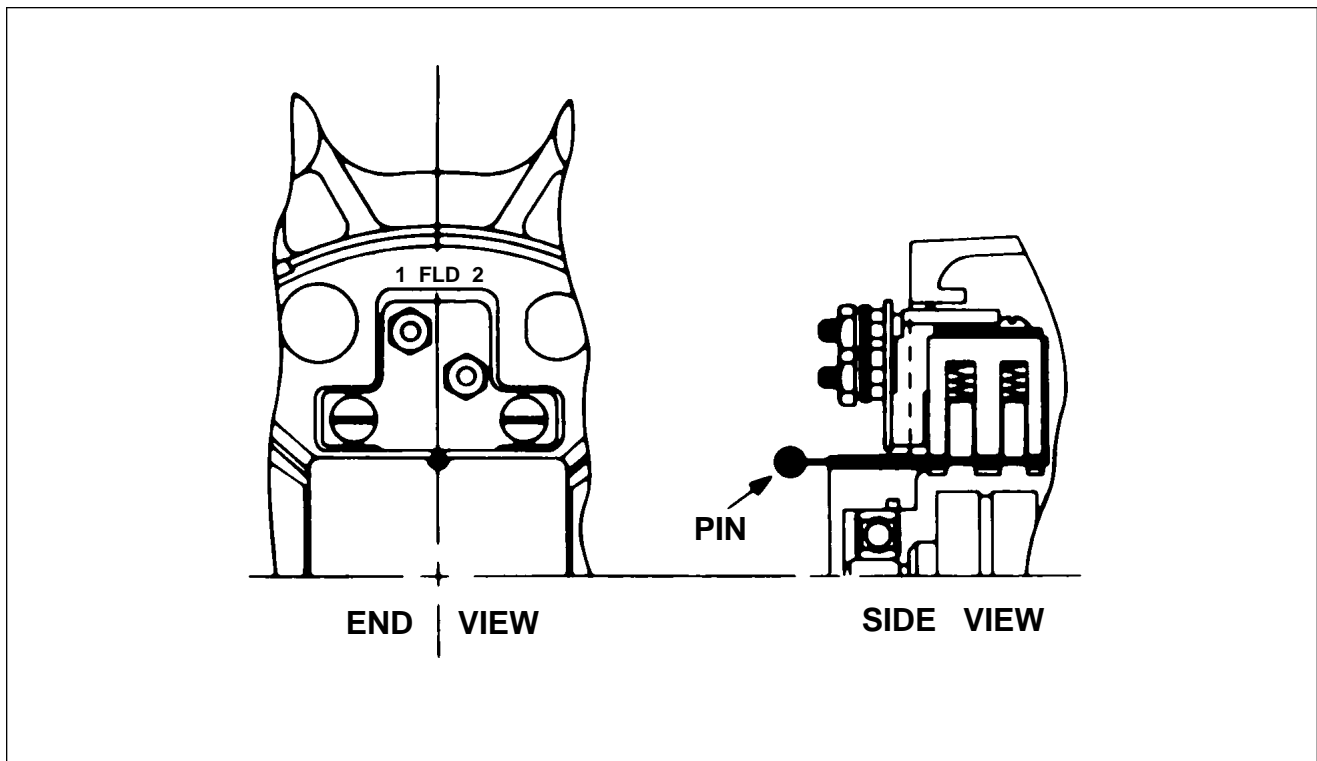

Figure 24-55. Electrosystems Alternator Brush Installation
- c. Brushes: These units have a separate brush holder assembly installed after alternator assembly. Brush holder has a small hole that intersects the brush cavities. Use a pin or wire, as in Figure 24-55 to hold brushes in holder during assembly. Remove pin after brush holder retaining screws are tightened. Check brushes are seated against slip rings.